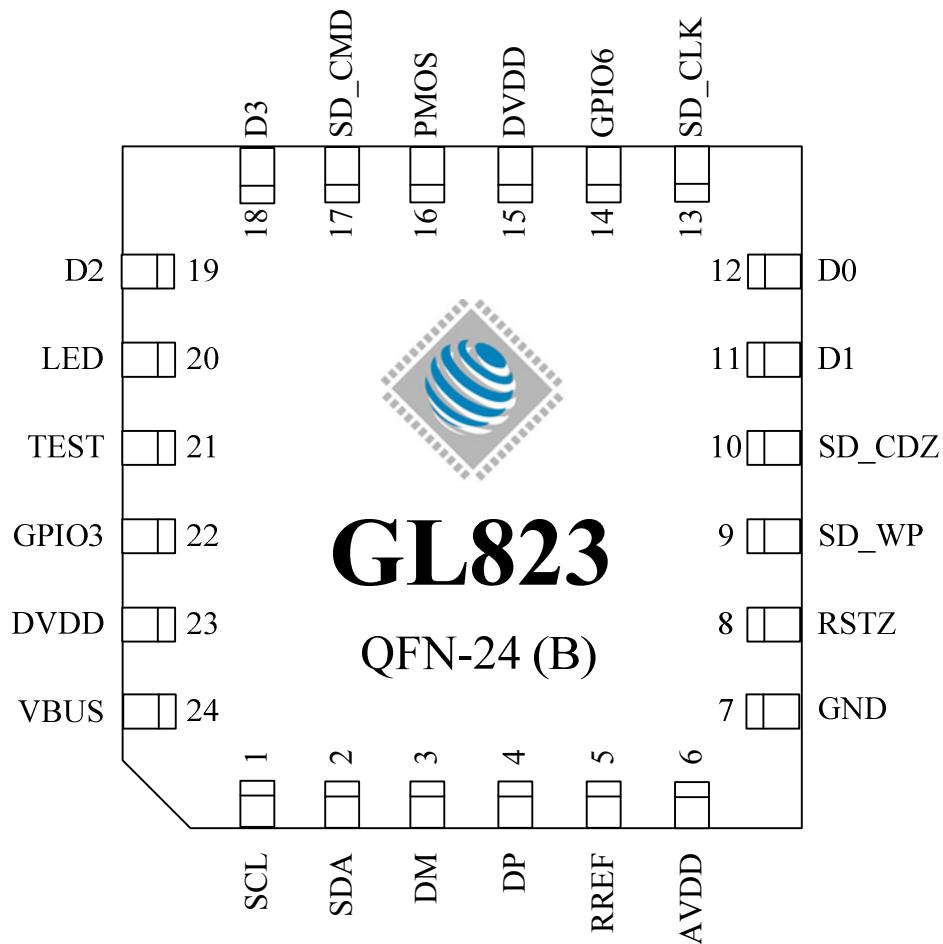

Figure 3.3 - 24 Pin QFN (B) Pin out Diagram
| Figure 3.3 - 24 Pin QFN (B) Pin out Diagram | 10 |